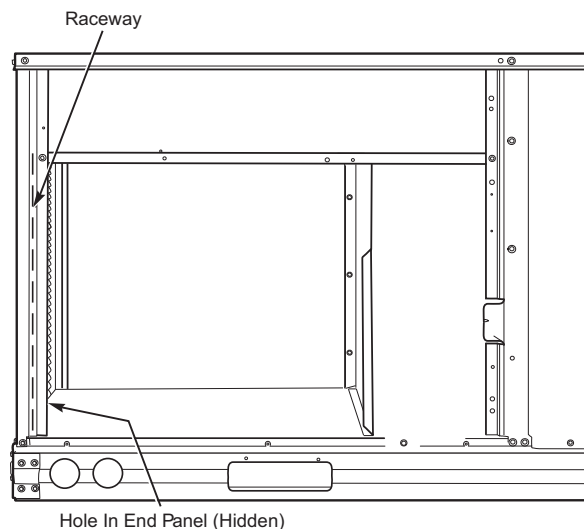

Fig. 31 — Field Control Wiring Raceway
The 50GC unit requires an external temperature control device. This device can be a thermostat (field-supplied) or a SystemVu™ controller (available as factory-installed option, for use on a Carrier Comfort Network® or as a stand-alone control). All field added wire must comply with UL and local NEC standards. See Units Without Thru-Base Connections on page 20 and use routing path shown in Fig. 31 to help with compliance as needed.
Pass the thermostat control wires through the hole provided in the corner post; then feed the wires through the raceway built into the corner post to the control box. Pull the wires over to the terminal strip on the upper-left corner of the Controls Connection Board. See Fig. 31.
2. Feed wires through the raceway built into the corner post (see Fig. 31) to the 24v barrier located on the left side of the control box. The raceway provides the UL-required clearance between high-voltage and low-voltage wiring.
2. Feed wires through the raceway built into the corner post (see Fig. 31) to the 24-v barrier located on the left side of the control box. The raceway provides the UL-required clearance between high-voltage and low-voltage wiring.